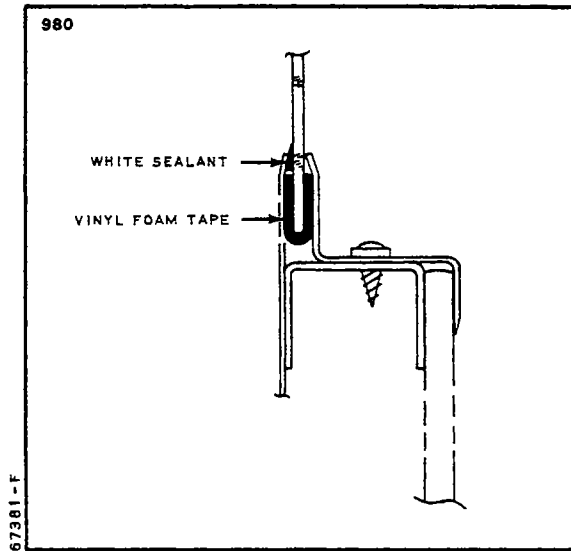

Figure 4-6. Side Window Installation, Single Pane (Typical)
a. Single Pane. (Refer to Figure 4-6.)